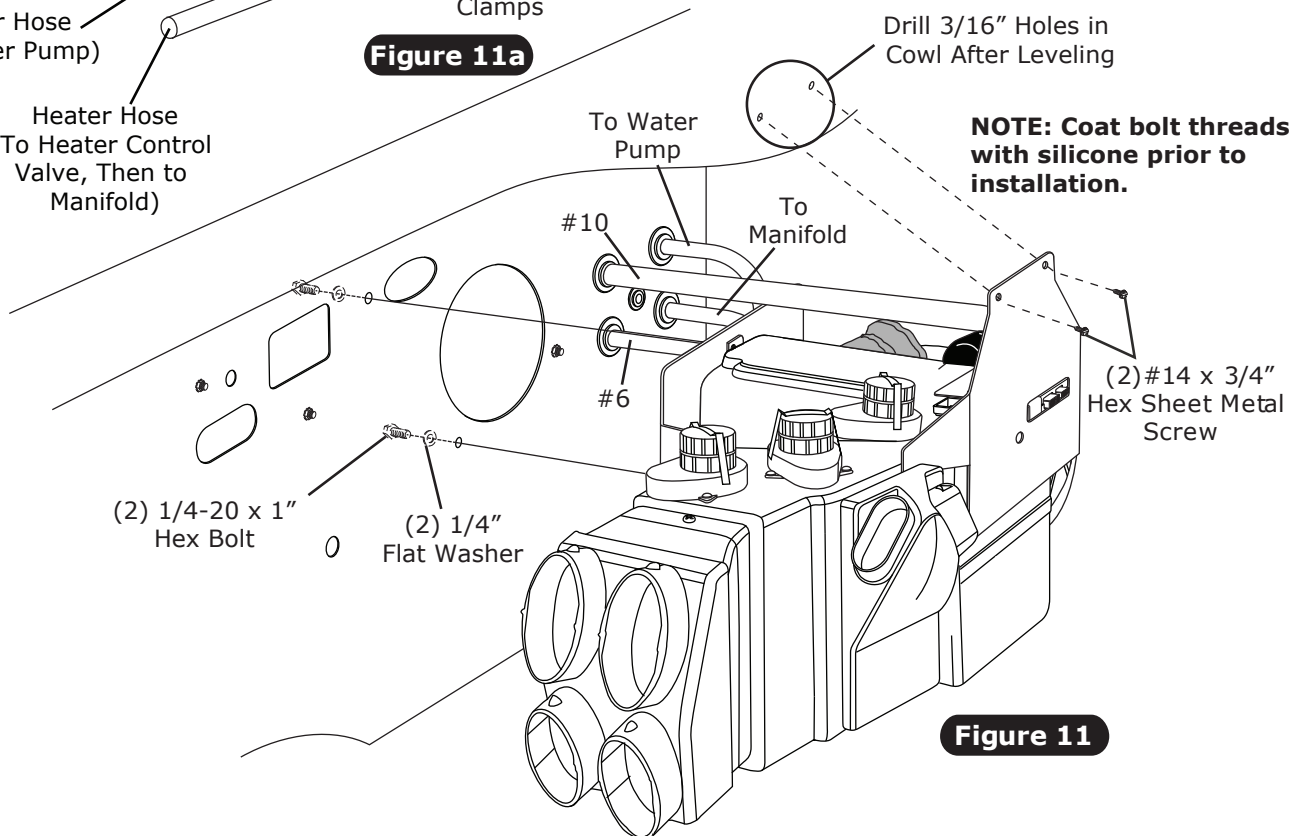

Figure 11
2. Lift evaporator unit up under the dashboard. Secure loosely to firewall using (2) 1/4-20 x 1" hex bolts and flat washers (See Figure 11, below). **NOTE: To ensure proper drainage, it is very important that the evaporator is level, both left-right and fore-aft. Check for level on the flat portions of the case around the drain.**
3. Using front evaporator bracket as a guide, mark and drill (2) 3/16" holes in cowl (See Figure 11, below).
4. Using (2) #14 x 3/4" hex sheet metal screws, secure the front evaporator mounting bracket to the cowl (See Figure 11, below).